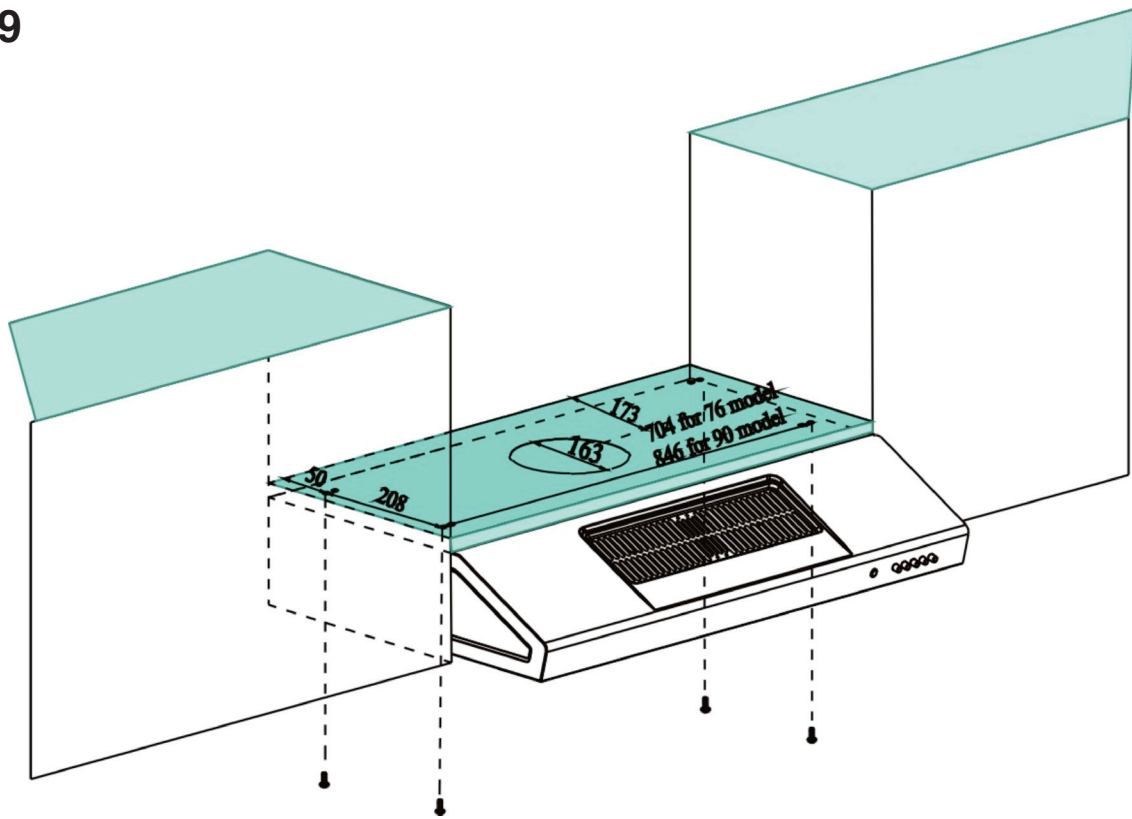

Fig 10
- The openings A on the hood (Fig.10) must be closed, since the air is re-circulated into the room through the front vents.